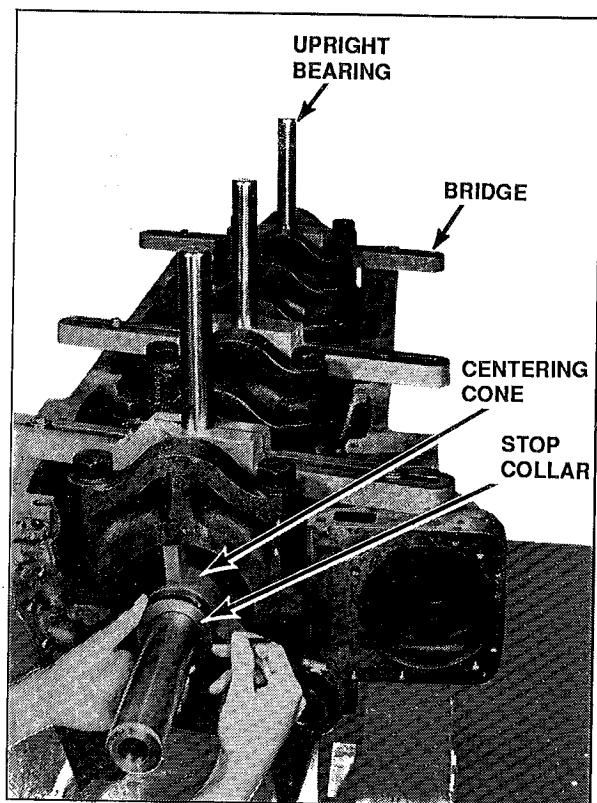

FIG. 1
1. Lightly coat the entire length of the boring bar and the bores of the upright bearings with oil. Slide the boring bar through the saddle bores of the engine block while positioning the upright bearing assemblies. (Fig. 1)
3. Now insert one of the line bore bridges over the upright bearing bar and secure loosely to the oil pan rails. (Fig. 1) If the distance between the oil pan rails is too large for the bridges. The bridge extensions may now be put loosely on the bridges.
in place. (Fig. 1) Now insert the other centering cone over the other end of the boring bar, pushing it into the saddle bore until it is also snug. Slide a stop collar behind the centering cone and lock in place.